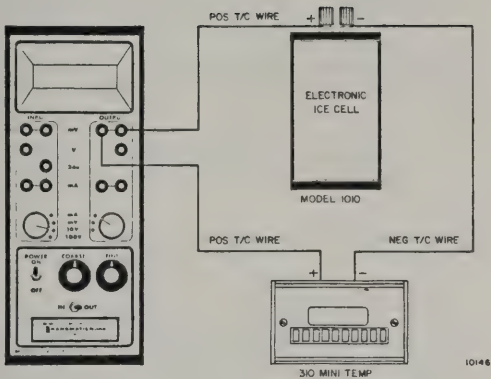
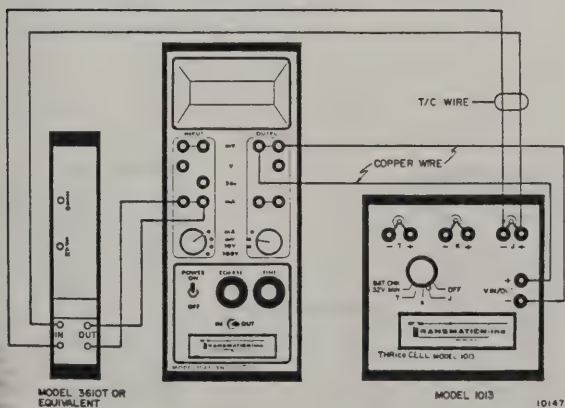

FIGURE 2-9a
FIGURE 2-9b
2. Make the necessary connections between the 1045, the ice cell and the T/C device. Figure 2-9a shows the connections between the 1045, a Transmation Model 1010 Ice Point Reference Cell and a T/C indicator (Transmation Model 310 MiniTEMP®). Figure 2-9b shows the connections between the 1045, a Transmation Model 1013 Ice Point Reference Cell and a T/C transmitter (Transmation Model 3610T). In Figure 2-9b, the 1045 is being used to provide a T/C signal (type J) to the transmitter and measure the transmitter's resulting mA output. The Model 1013 is recommended for applications with type J, K and T thermocouples. The Model 1010 is recommended for all other types of thermocouples. Consult the appropriate instruction manual for detailed information (I.S. #100726-900 for the Model 1013 or I.S. #100720-900 for the Model 1010). Note that the red T/C lead is negative and the color-coded T/C lead is positive.
3. Set the 1045's Output Range Selection Switch to mV, and, if monitoring an input as well (as shown in Figure 2-9b), set the Input Range Selection Switch for the appropriate range.
5. Monitor the mV output on the 1045's LCD. If calibrating a thermocouple indicator such as the one shown in Figure 2-9a, a display is generally provided for monitoring the temperature. If calibrating a transmitter, the transmitter output (normally mA) can be monitored on the 1045's display.